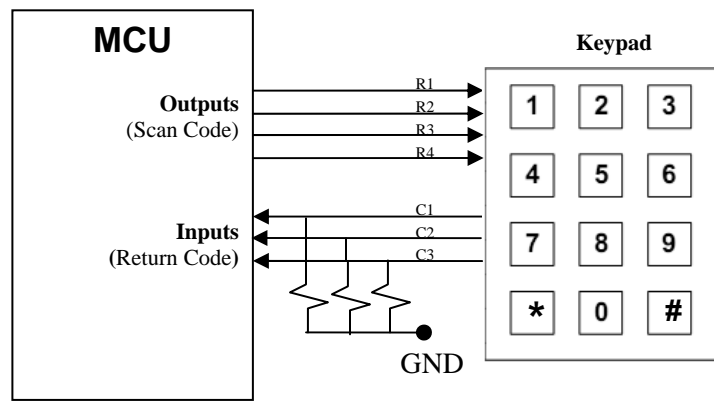
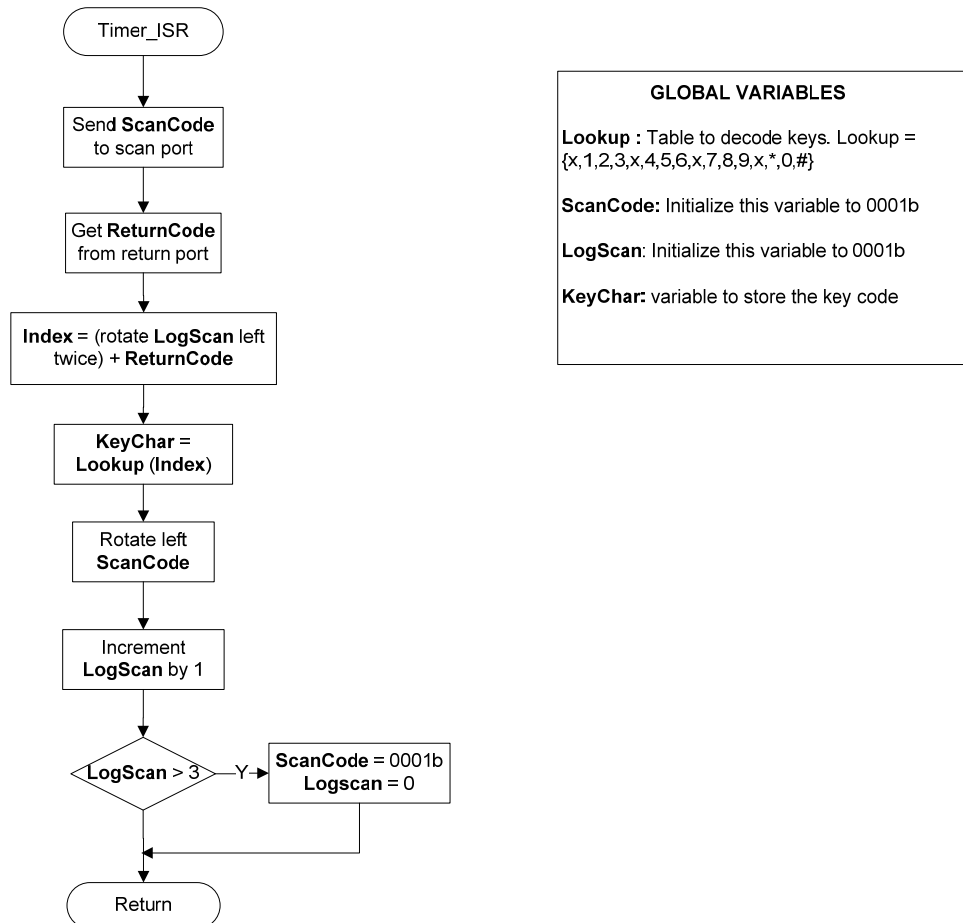

Figure 5: Keypad connection diagram.
Figure 6, Read Keypad flowchart
2. Connect the keypad to your MCU as illustrated in Figure 5. Guided by the flowchart in Figure 6, scan the keypad and show in one display the pulsed key. This flowchart illustrates how to scan the keypad using a periodic timer interrupt to set the scanning frequency. It assumes the timer was programmed with the proper values. For this application, a scan period of 10ms is appropriate.